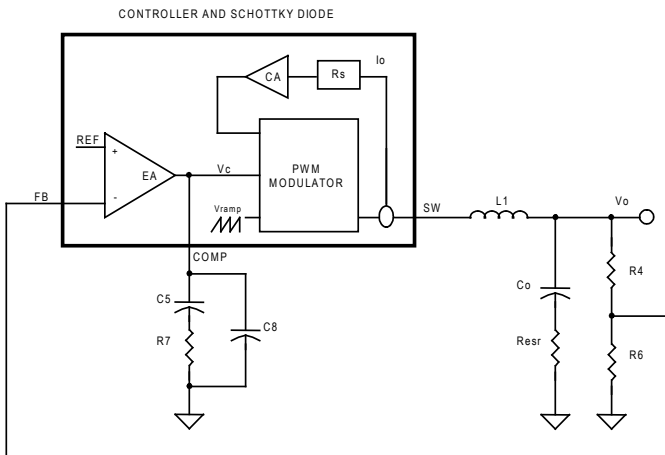

Figure 7 — Block diagram of control loops
the converter output needs to be loaded or V_{IN} needs to be increased. Using larger soft-start capacitor C_{SS} will also help in starting bootstrap because there will be current in the inductor over a longer period of time. Figures 7(a) and 7(b) show the minimum input voltage required to start bootstrap and to run before dropping out as a function of the load current. The minimum start-up V_{IN} decreases with higher dV_{IN}/dt or larger soft-start capacitor C_{SS} . The lines labeled “dropout” in these graphs show that once started, the bootstrap circuit is able to sustain itself down to zero load.
Figure 7. The Minimum Input Voltage to Start and to Run Before Dropout. The Regulator is Bootstrapped from its Output [Figure 6(a)]. D_1 is 1N4148. (a) $V_{OUT} = 5V$ (b) $V_{OUT} = 3.3V$
The block diagram in Figure 7 shows the control loops of a buck converter with the SC4524F. The inner loop (current loop) consists of a current sensing resistor ($R_s=5.5m\Omega$) and a current amplifier (CA) with gain ($G_{CA}=18.5$). The outer loop (voltage loop) consists of an error amplifier (EA), a PWM modulator, and a LC filter.
For a converter with switching frequency F_{SW} output inductance L_1 , output capacitance C_o and loading R , the control (V_c) to output (V_o) transfer function in Figure 7 is given by: